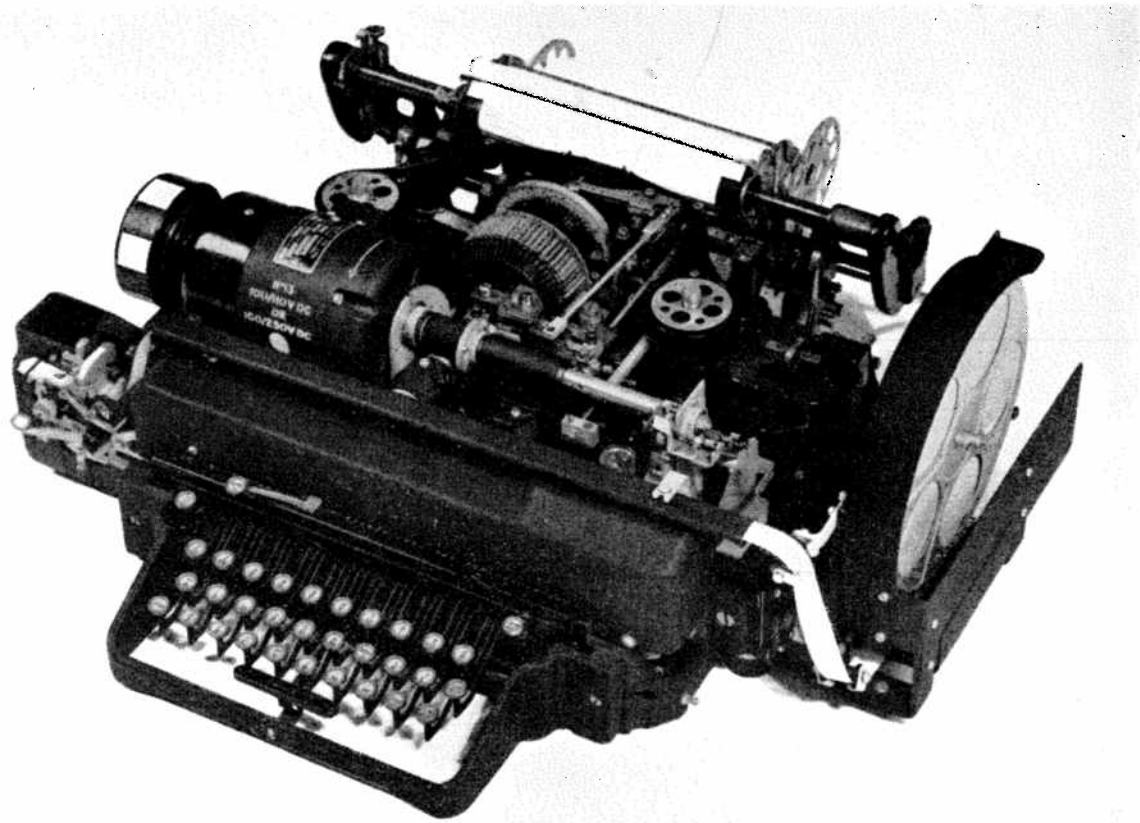

FIG. 1.—TELEPRINTER No. 7B/PKN3
**5. Description.**—The Teleprinter No. 7B/PKN3 (see Fig. 1) is basically a Teleprinter No. 7B, Page but is fitted with a Teleprinter No. 11-type saw-tooth keyboard, which incorporates a perforating unit similar to that used on Perforators No. 45. For detailed information of these assemblies, reference should be made to C 1052, D 1002 to D 1005 and I 1051.